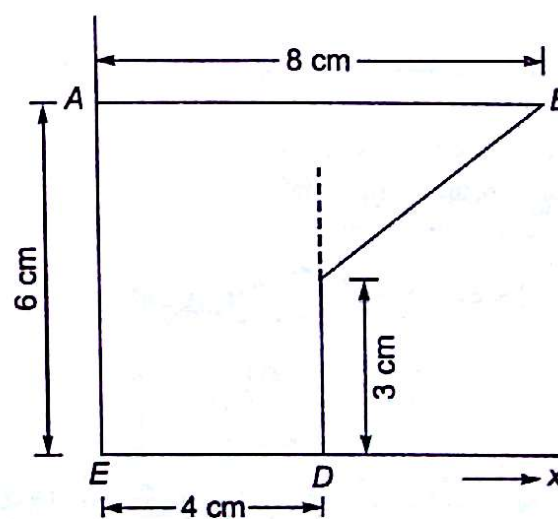

Fig. 5.23
5.10 What is the y-coordinate of the centroid of the area a ABCDE, as shown in Fig. 5.23.